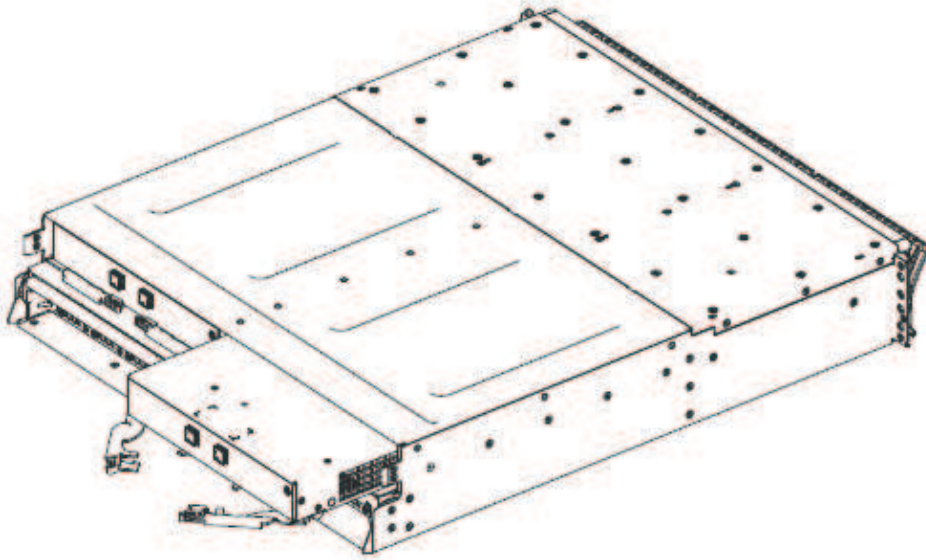

Figure 22. Removing and replacing the Storwize V7000 Gen2 expansion canister
6. Open the two release levers as shown in Figure 22 on page 149. The canister moves out of the slot approximately 0.6 cm (0.25 inch).